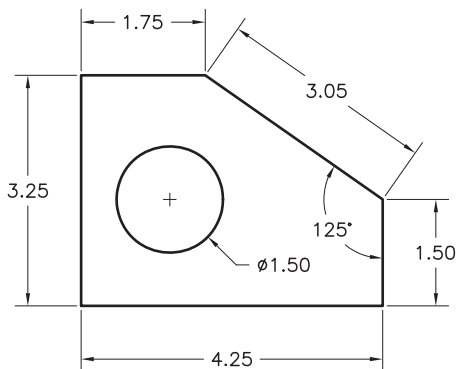

Fig. 27-8
- 1-2.** Create the blocks shown in Figs. 27-8 and 27-9. Place object lines on a layer named **Objects** and dimensions on a layer named **Dimensions**. Create a new text style using the **romans.shx** font. Approximate the location of the holes. Refer to **block1.dwg** and **block2.dwg** (These drawings are located on the OLC for this book, in the Drafting & Design Problems section.)